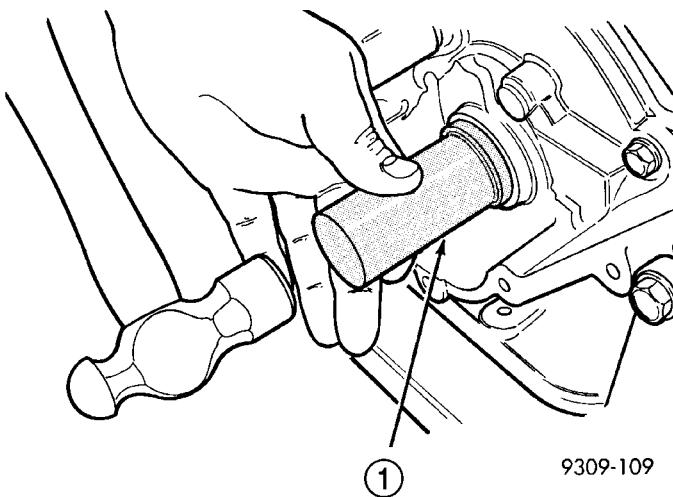

Fig. 74 INSTALLING CRANKSHAFT OIL SEAL WITH SPECIAL TOOL
(1) Install crankshaft seal using Special Tool 6342 (Fig. 74).